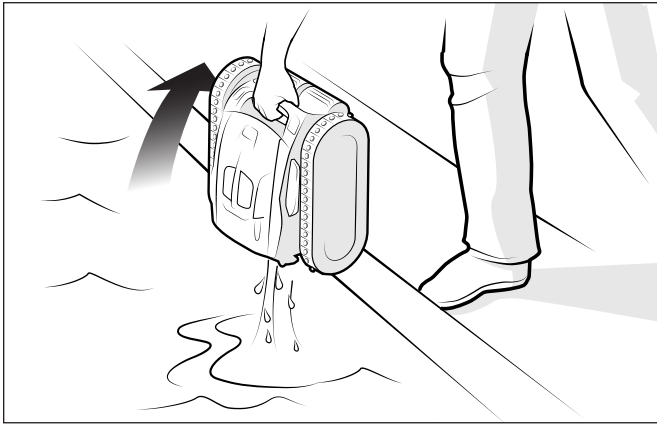

Figure 10. Keep Cleaner Vertical to Drain Water
2. Hold the cleaner vertically to drain (Figure 10).